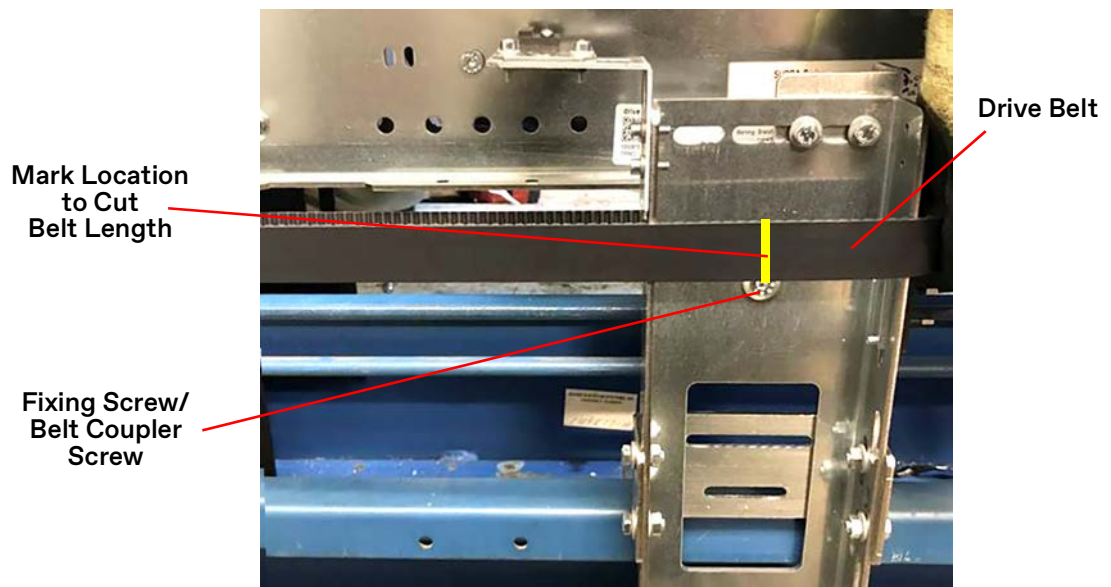

Figure 9 - Drive Belt Installation
9. Install the drive belt. See Figure 9.